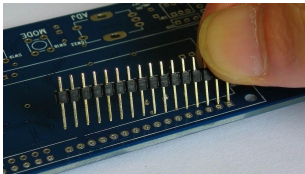

Fig. 6
- 1) Insert the 16x1 pin header into main PCB with its long ends go into PCB holes. (See Fig. 6)